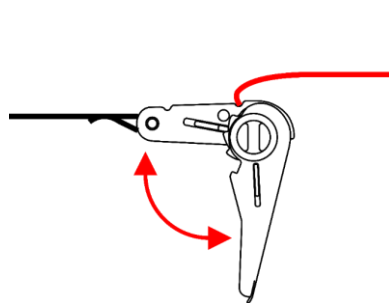

Fig. 08
- 04) Repeatedly open and close the **ratchets (03)** to tighten the **endless ratchet straps (04)** around the tree or the upright structure (Fig. 08). Make sure that the endless ratchet straps are not overloaded.
- Minimum two persons are necessary to install the device. When tightening the **endless ratchet straps (04)**, make sure that the metal bracket remains in position, against the tree or the upright structure.